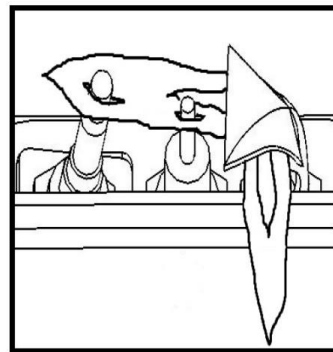

FIG. 2
4. Wait five (5) minutes to clear out any gas. Then smell for gas including near the floor. If you smell gas, STOP! Follow "B" in the safety information above. If you don't smell gas, proceed to step 5.
6. Continuing beeps confirm the ignition is in process. Once lighting the pilot flame should appear as shown in Fig.2. Once the pilot is confirmed, the main burner ignites on high.
For your safety, this appliance is fitted with a flame supervision device which will shut-off the gas supply if, for any reason, the pilot flame goes out. This device incorporates a Thermocouple, which senses the heat from the pilot flame. If the Thermocouple is cool, the device will prevent any gas flow unless manually lighting the pilot. See full lighting instructions. Periodically check the pilot and burner flames, comparing them to figure 2 on the preceding page, and the image at the bottom of this page.